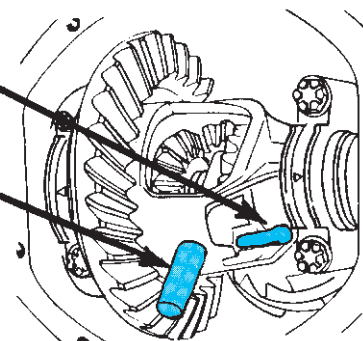

FIGURE 12-18 Removing the lock bolt allows removal of the differential pinion shaft. (Courtesy of Ford Motor Company)
4. Remove the differential shaft retaining pin (Figure 12-18).